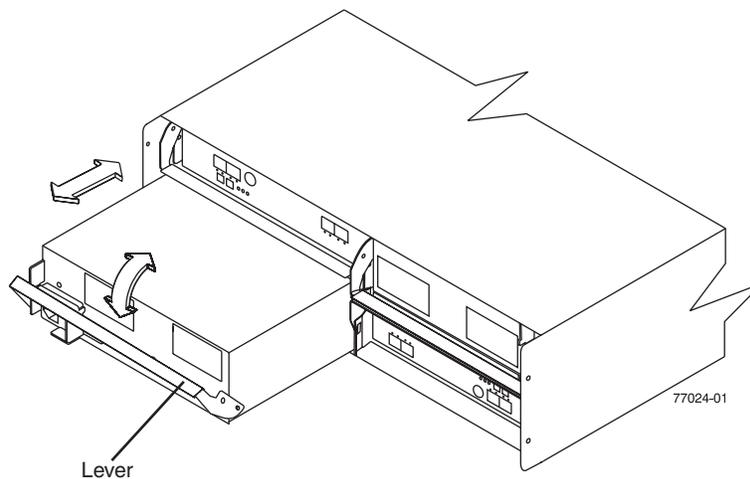

Figure 22. Replacing a power supply-fan
**Attention:** Be sure that the lever is pulled straight out as you slide the power supply-fan into the storage subsystem, as shown in Figure 22. The left and right power supply-fan units are seated in the DS4700 chassis in opposite orientations. If you cannot fully insert the power supply-fan into the power supply-fan bay, flip it 180° and reinsert it.